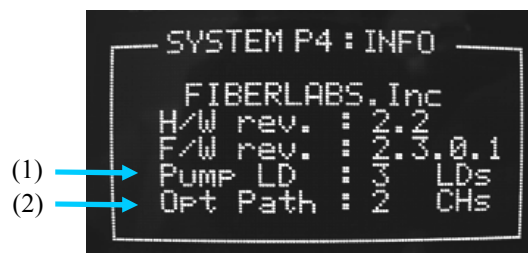

Fig.17 SYSTEM P4 (e.g.)
6.4.4 Page 4 details (See Figure 17)